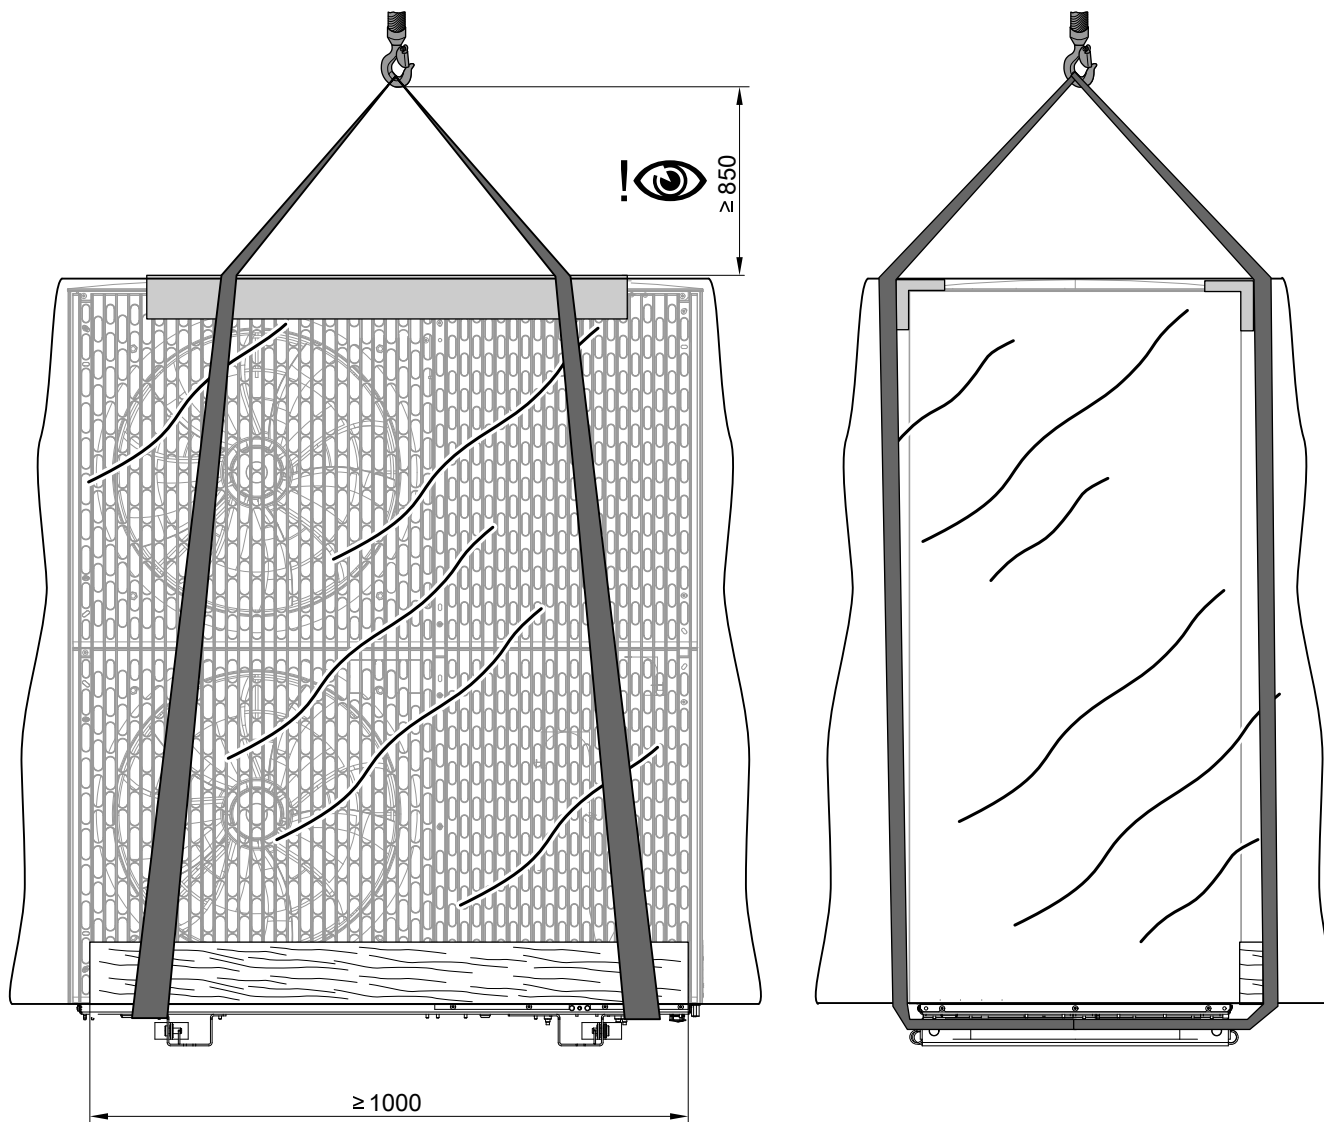

Fig. 8 Transport by crane using the example of the outdoor unit with 2 fans
3. Position the edge protection profiles of the packaging at the front and rear upper edges of the outdoor unit. Place slings properly around the outdoor unit: See Fig. 8.